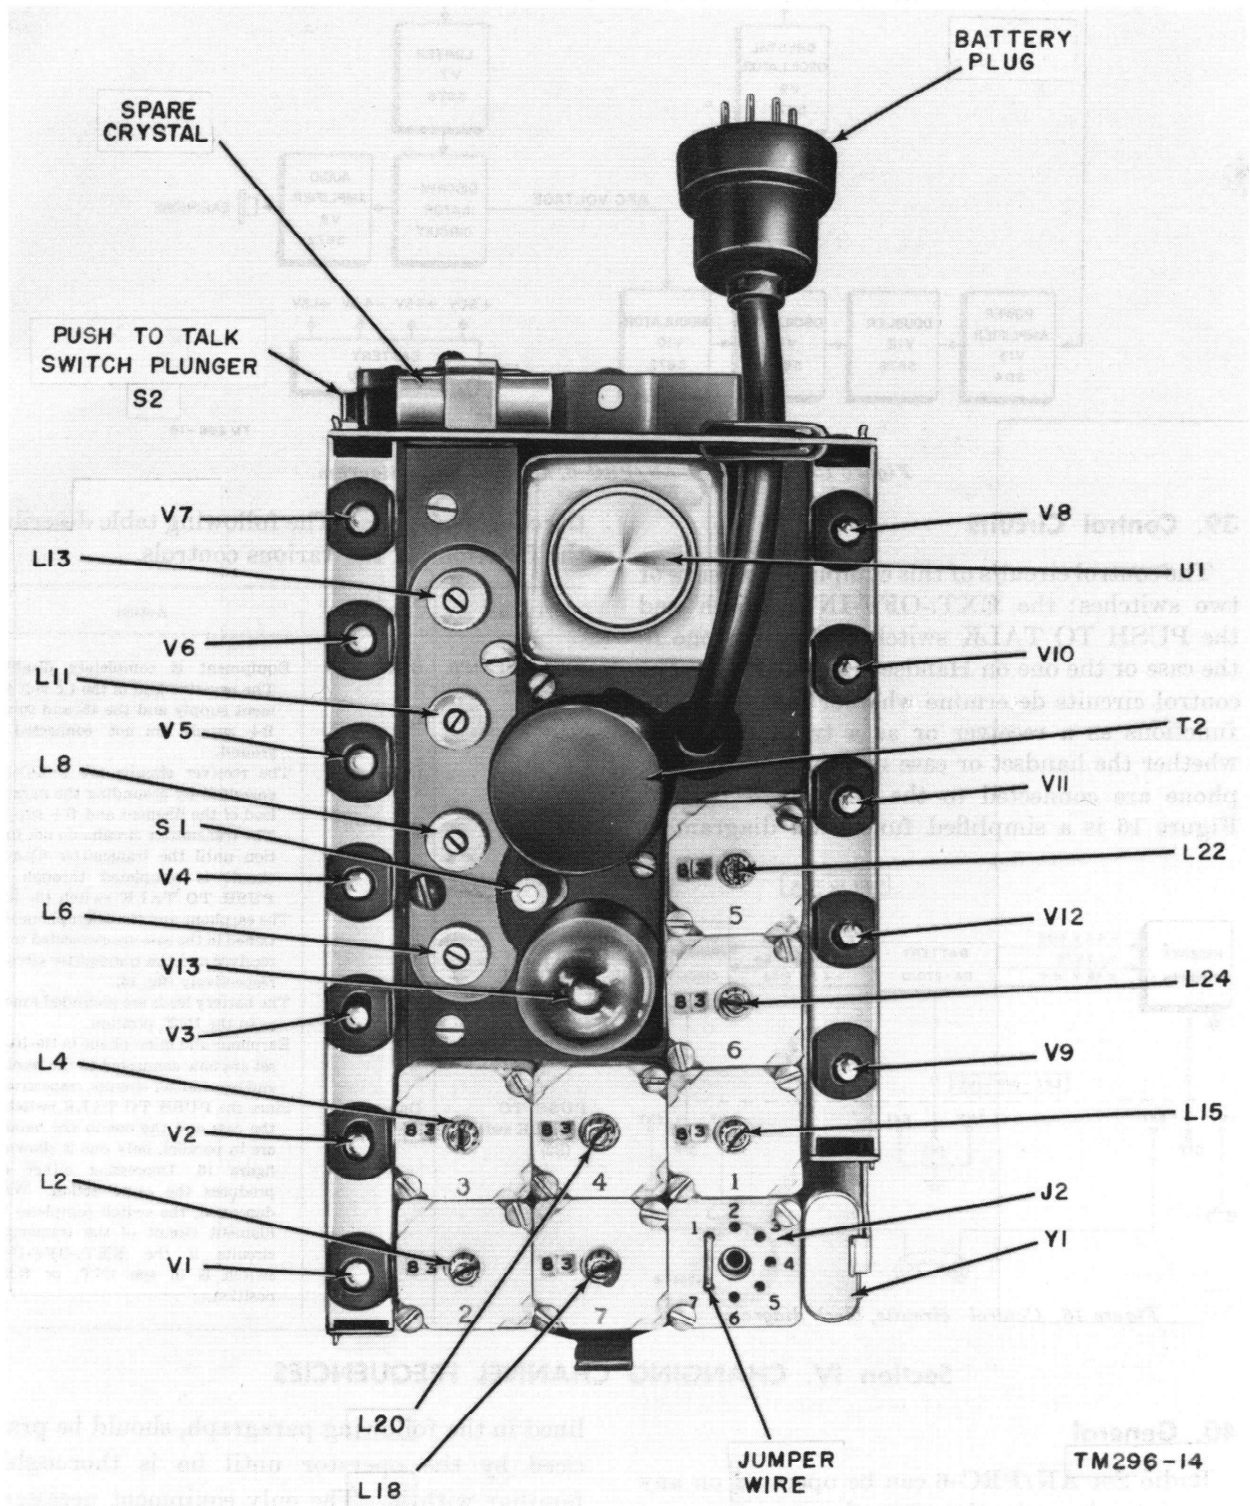

Figure 14. Radio Receiver-Transmitter RT-196/PRC-6, chassis.
c. Remove the thin aluminum shield over the chassis by pulling it upward. Check to determine that the wire jumper (fig. 14) connecting pins 1 and 7 of the test jack at the extreme top left-hand corner of the chassis is in place. If the jumper is missing, look for it in the interior of the case. The jumper consists of a short piece of wire shaped in the form of a **U**. Each leg of the **U** is approximately ¼-inch long. When the jumper is found, spread the legs slightly and reinsert it into pins 1 and 7. Replace the aluminum chassis shield.